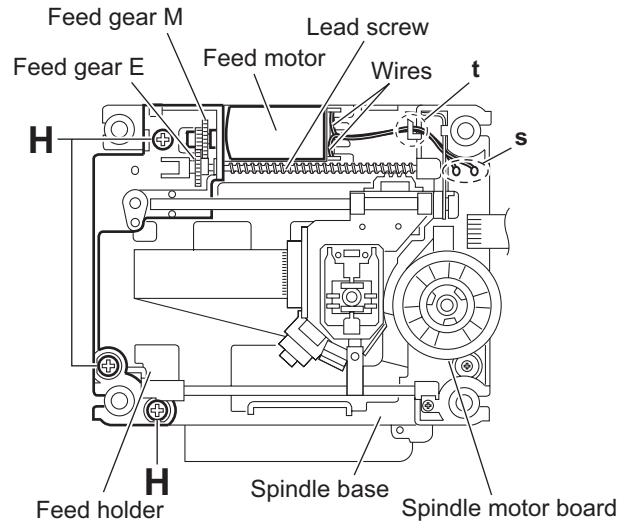

Fig.11
- Remove the wires from the soldered section **s** on the spindle motor board. (See Fig.11.)
When attaching the feed motor, pass the wire through the section **t** on the spindle base. (See Fig.11.)
- Remove the feed holder, feed motor, lead screw, feed gear E and feed gear M at the same time after removing the three screws **H** attaching the feed holder. (See Fig.11.)
3.2.8 Removing the spindle motor board (See Figs.11 and 13)
- From the top side of the traverse mechanism assembly, remove the wires from the soldered section **s** on the spindle motor board. (See Fig.11.)